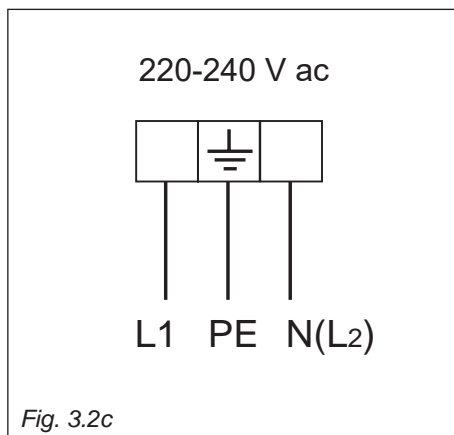

Fig. 3.2c
- Connect the wires to the terminal block “B” as shown in the diagram in figure 3.2c.